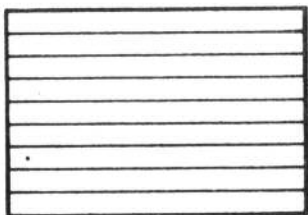

Fig. 18. Vertical linearity test pattern. Number of lines is not critical...between 8 to 12 is best.
- () 16. Make a simple linearity chart as per fig. 18. Place it in front of the camera and adjust the height and vertical linearity controls until all the bars are as close to the same spacing as possible.